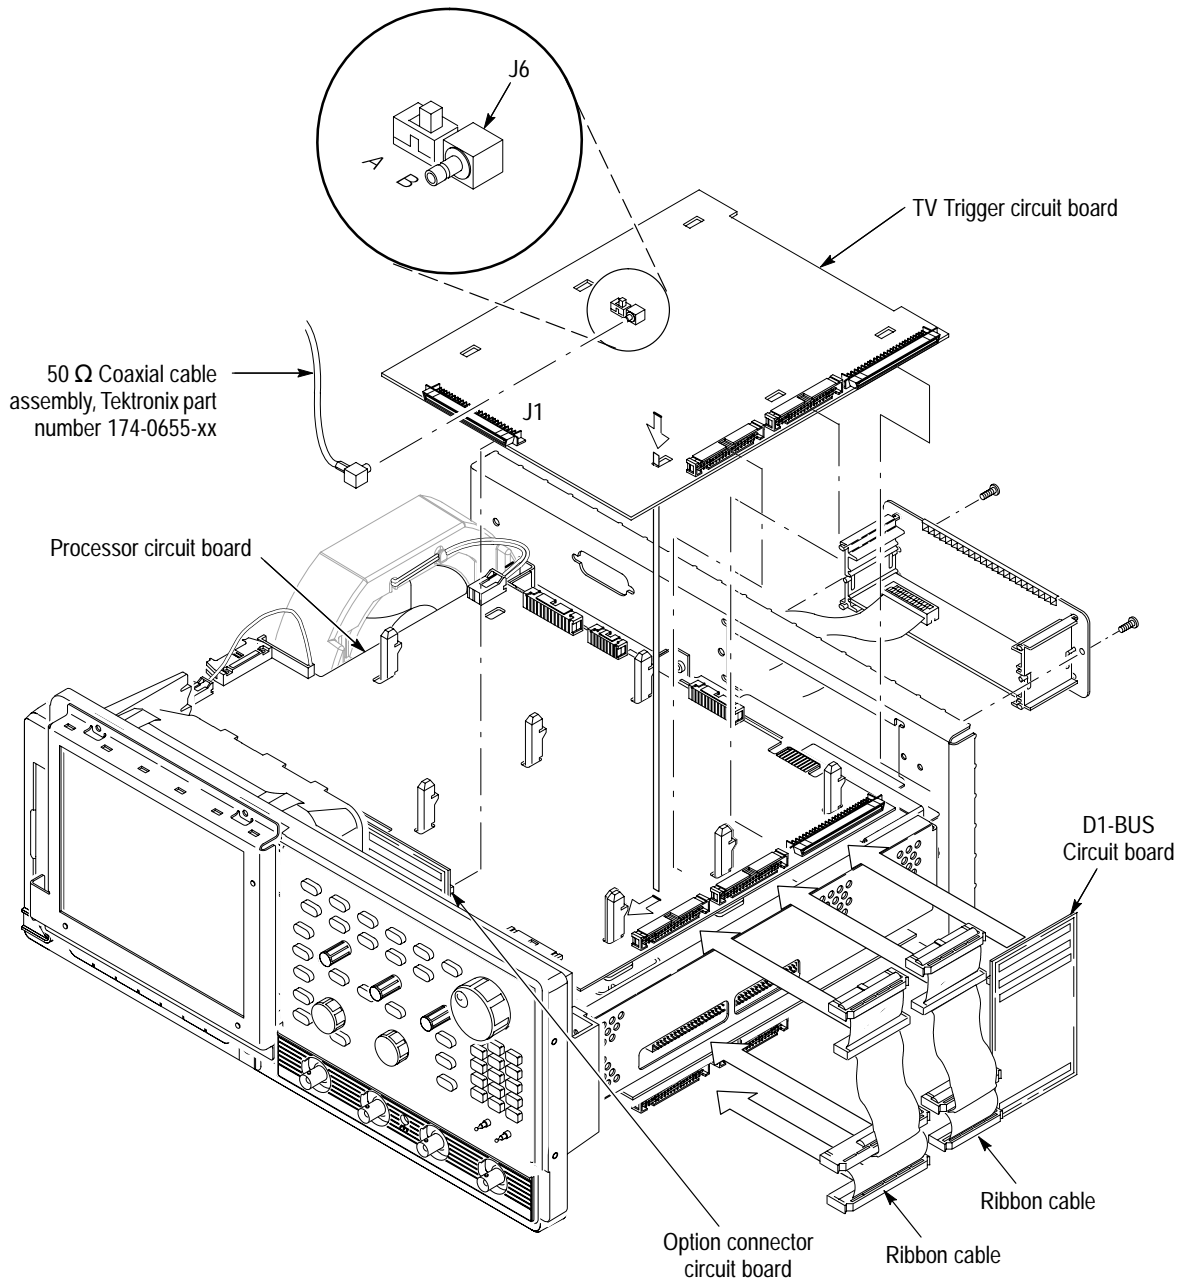

Figure 3: Circuit board insertion
2. Install the TV Trigger circuit board A29 (provided in this kit) into the instrument. Push down and slide the TV Trigger circuit board onto the board mounts (see Figure 3). Refer to the *Removal and Installation Procedures* in the TDS Series service manual for more detailed installation procedures.
3. Connect the appropriate power ribbon cables (provided in this kit). The two (2) ribbon cables interconnect to the analog power and digital power to the Acquisition circuit board, Processor circuit board, and TV Trigger circuit board.
**NOTE.** *When plugging in the D1-BUS boards (see figure 3) make sure that they remain plugged in on both ends after the kit is installed.*
7. Set the slide switch located on the TV Trigger circuit board to the following position (see Figure 3):